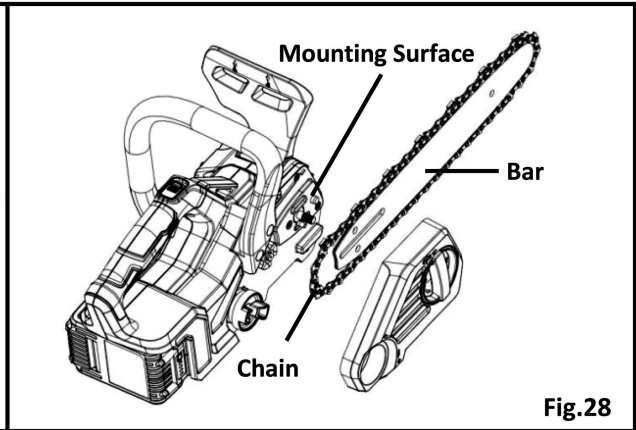

Fig.28
- Remove the chain cover. Remove the bar and chain from the mounting surface. Remove the old chain from the bar. (see figure 28)